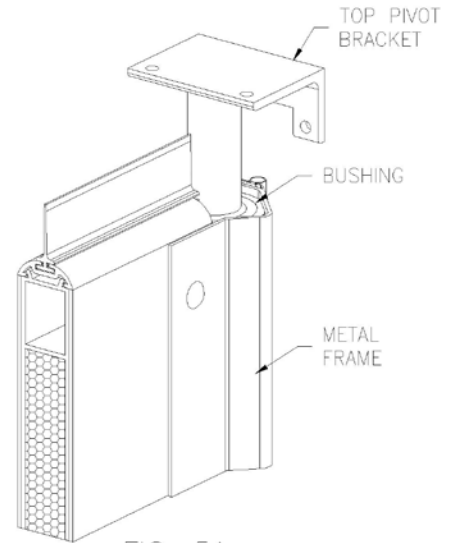

FIG. 5A
- b. **Insert Top Pivot Bracket Sleeve and Top Pivot Bracket** into bushing in top of metal frame (Figure 5a).